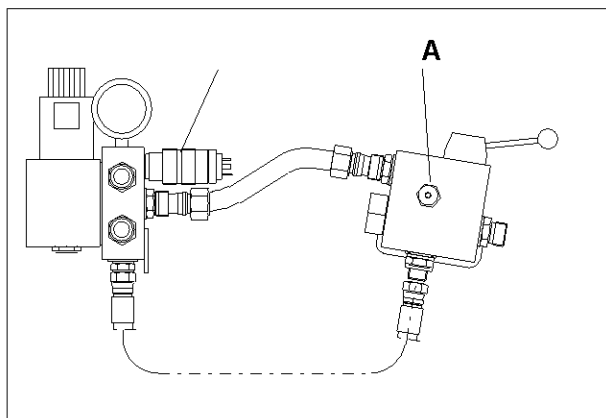

Fig. 85
- c. Loosen locknut for the relief valve screw (fig. 85/A), and unscrew one turn.
- e. Adjust relief valve screw (fig. 85/A) until pressure gauge shows 110 bar.
- f. If the red diode on the pressostat plug is lit, turn the pressostat (fig. 85) in until lights turn off. Then turn it out again until the diode is lit. Now the pressostat is set to reverse the rollers at 110 bar.
- g. Now adjust relief valve screw (Fig. 85/A) further in, until pressure gauge shows 130 bar. Lock the relief valve screw with lock nut. This operation is required to set the relief valve at a higher pressure than the pressostat (pressure controller) (130bar as oppose to 110bar).